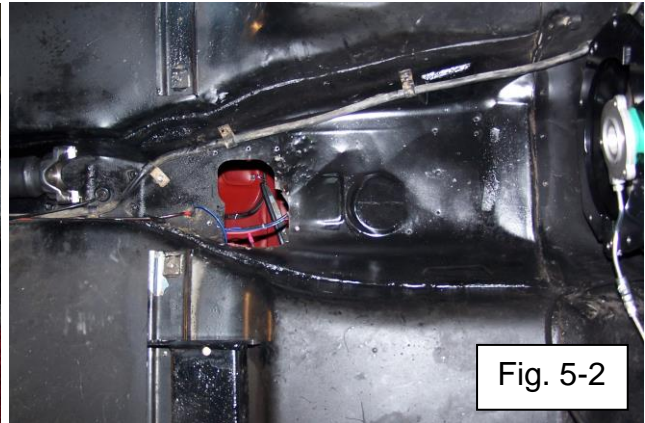

Fig. 5-2
- d. See Fig. 5-2 for bottom view of finished shifter hole tunnel cut. The final shift handle connection joint will be positioned in the same location as the original factory shifter handle and will fit in factory console opening.
- d. See Fig. 5-2 for bottom view of finished shifter hole tunnel cut. The final shift handle connection joint will be positioned in the same location as the original factory shifter handle.